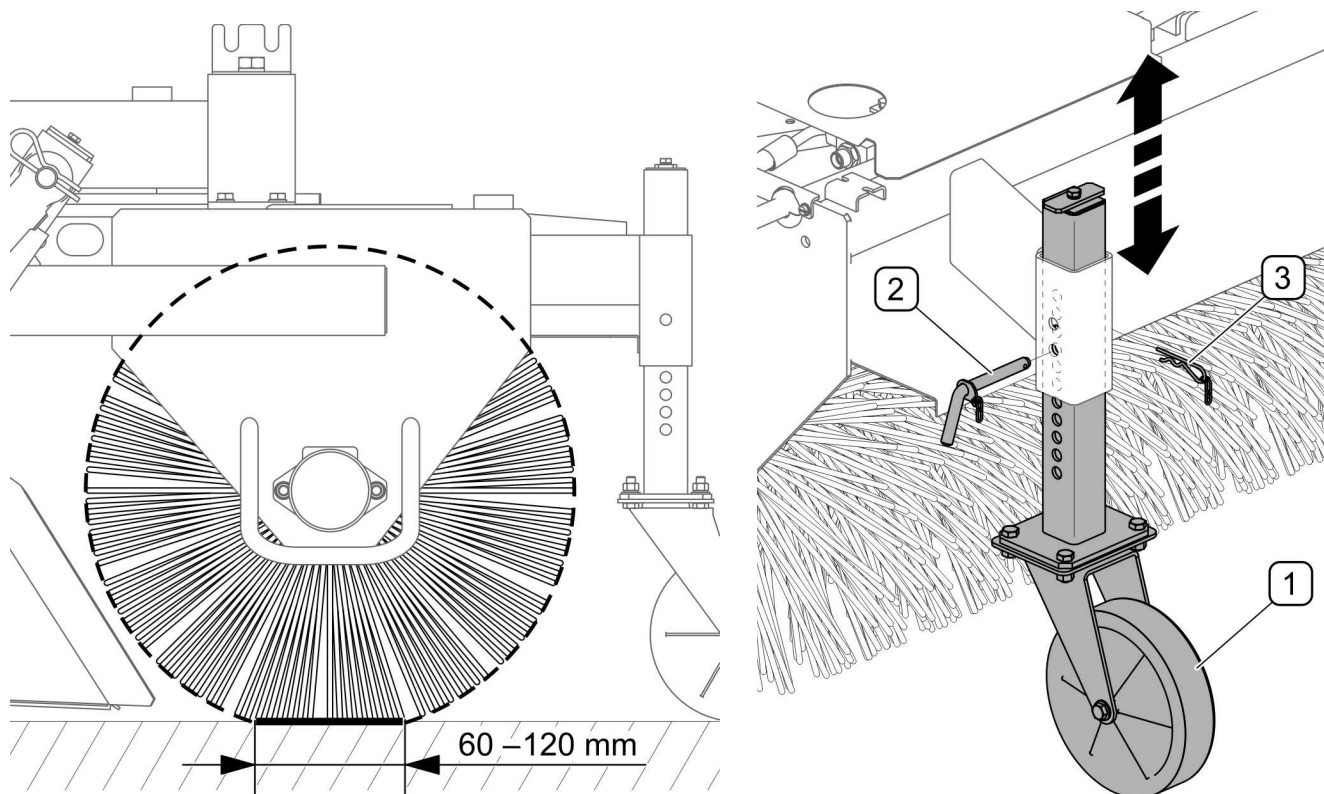
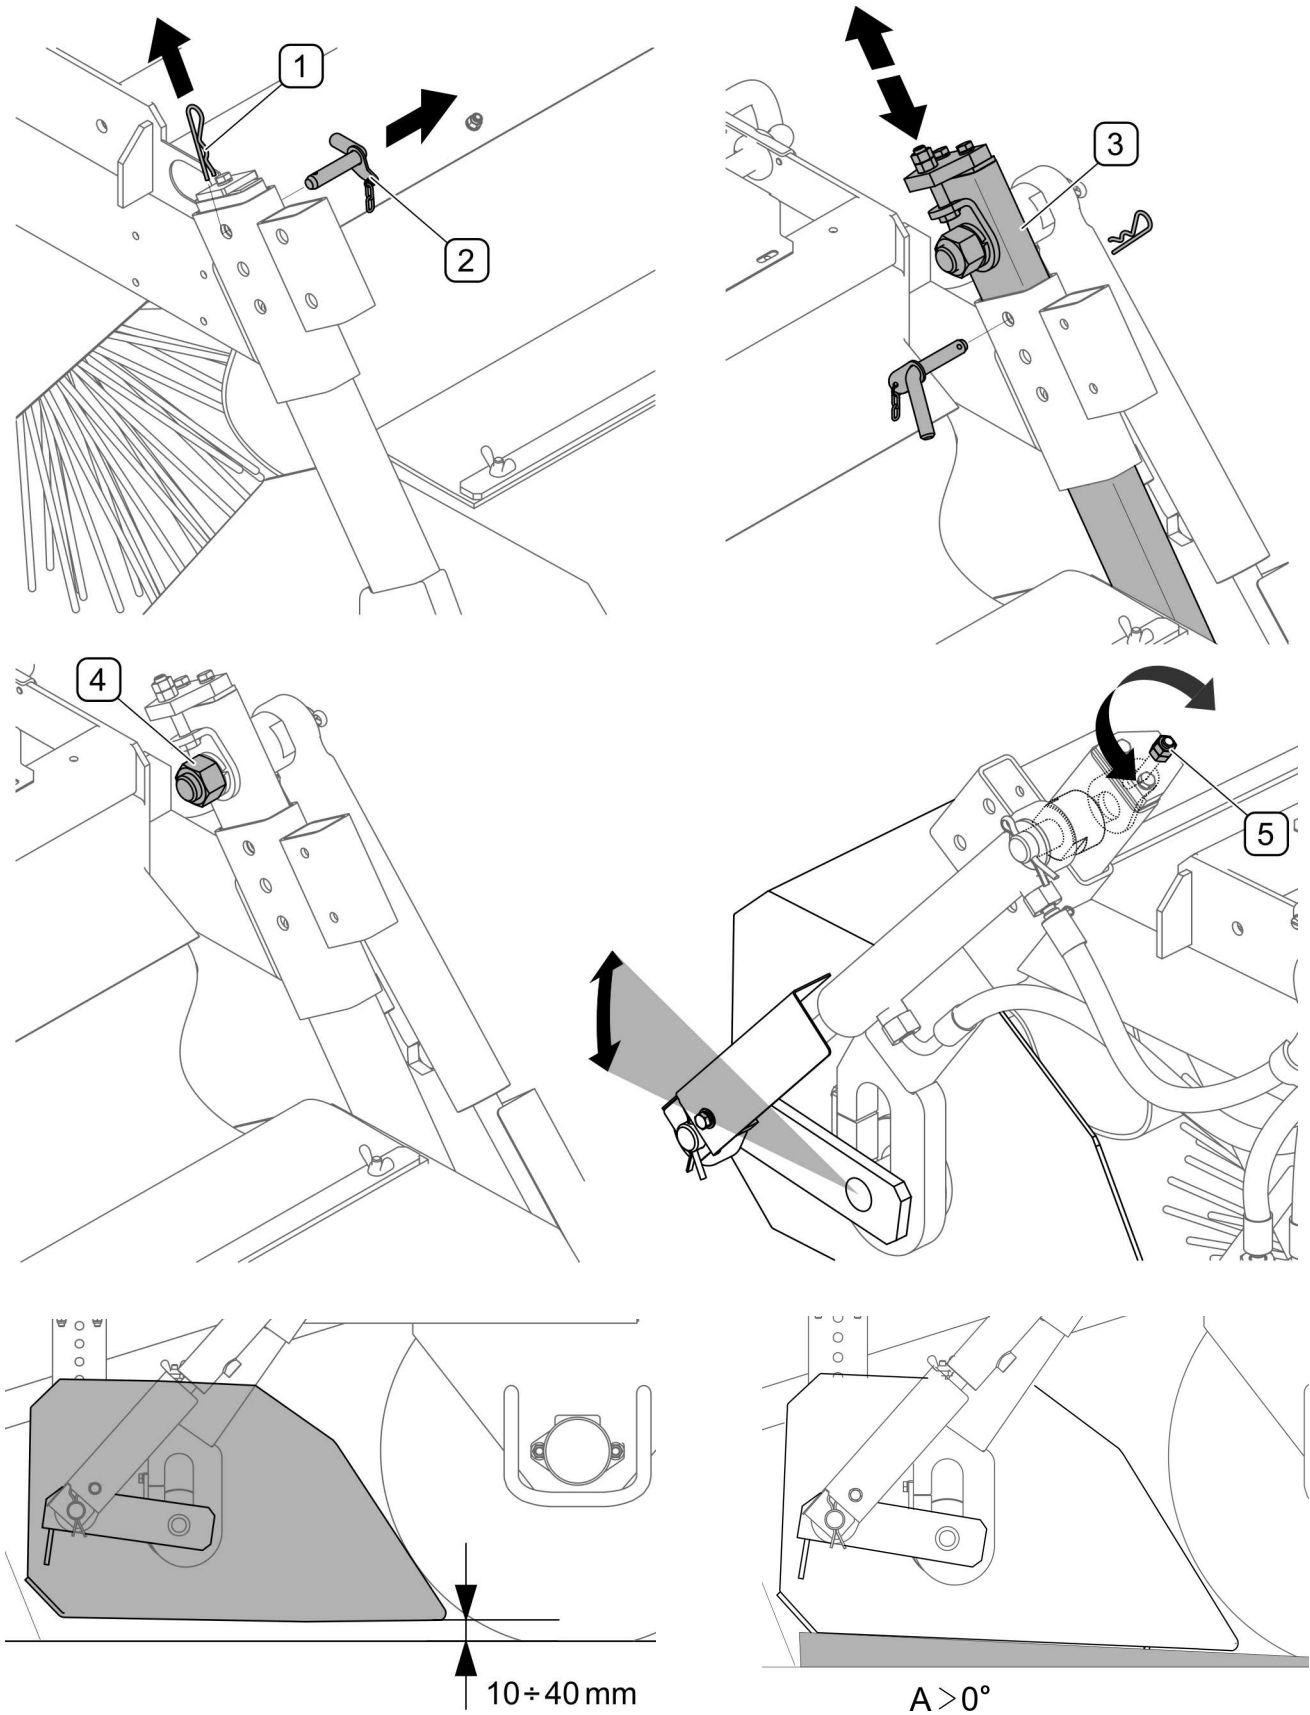

FIG. 5.1 Sweeping roller brush pressure adjustment
FIG. 5.2 Adjusting the waste tank
Adjustment of the sweeping roller brush should always be carried out in conjunction with adjustment of the waste tank. Sweeping roller brush must be adjusted depending on its wear. Sweeping roller brush ground contact surface should be in the range from 60 to 120 mm (FIG. 5.1). The pressure can be set individually depending on the degree of ground contamination.
Pressure is adjusted by changing the position of jockey wheels (1) in guides (FIG. 5.1) as follows:
- Remove the R-clip (3) and cotter pin (2),
- raise or lower the wheel (3) in the guide so that the holes are coaxial,
- put cotter pin (2) in the corresponding hole and secure with R-clip (3),
Adjust the waste tank (FIG. 5.2) after adjusting the pressure of the sweeping roller brush (FIG. 5.1) and adjusting the waste tank inclination angle. Adjust the height of the waste tank as follows:
To adjust waste tank tilt angle (FIG. 5.2) move the upper anchorage point of the waste tank tipping cylinder on the left side of the sweeper. The adjustment should be performed as follows: